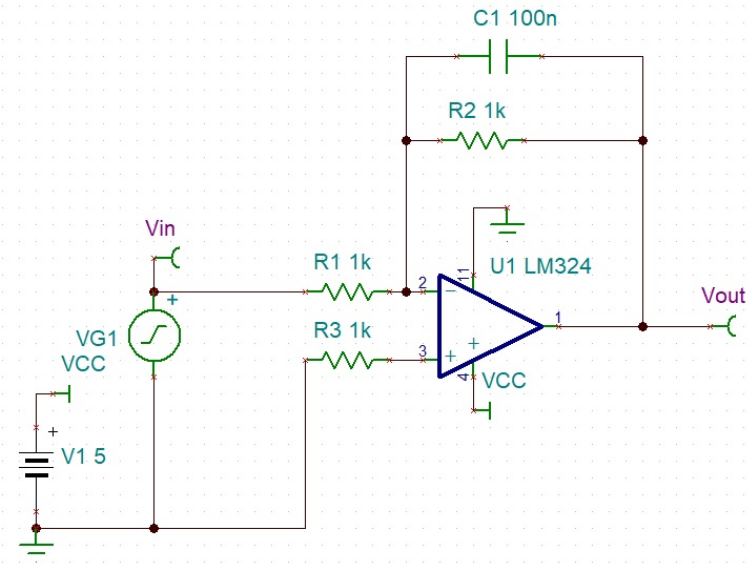

Figure 1: One-pole Low Pass Filter
- 1) Similar to previous Experiments, use TINA-TI simulator to construct One-pole Low Pass Filter as shown in the Figure 1. Configure **Battery** V1 to 5V, input signal VG1 (**Voltage Generator**) as shown in Figure 1. (**DC Level: -1.5, Sine wave**)
- 1) Similar to previous Experiments, use TINA-TI simulator to construct Two-pole Low Pass Filter as shown in the Figure 1. Configure **Battery** V1 to 5V, input signal VG1 (**Voltage Generator**) as shown in Figure 1. (**DC Level: -1.5, Sine wave**)
- 1) Similar to previous Experiments, use TINA-TI simulator to construct High Pass Filter as shown in the Figure 1. Configure **Battery V1** to 5V, input signal **VG1 (Voltage Generator)** as shown in Figure 1. (**DC Level: 1.5, Sine wave**)
- 1) Similar to previous Experiments, use TINA-TI simulator to construct Band Stop Filter as shown in the Figure 1. Configure **Battery V1** to 5V, input signal **VG1 (Voltage Generator)** as shown in Figure 1. (**DC Level: 1.5, Sine wave**)
- 1) Similar to previous Experiments, use TINA-TI simulator to construct Op-amp Multivibrator as shown in the Figure 1. Configure **Battery V1** to 5V and V2 to -5V, label V1 as +V and V2 as -V. Add op-amp LM7171A by pressing **Spice Macros** button, then select op-amp as shown in picture below.